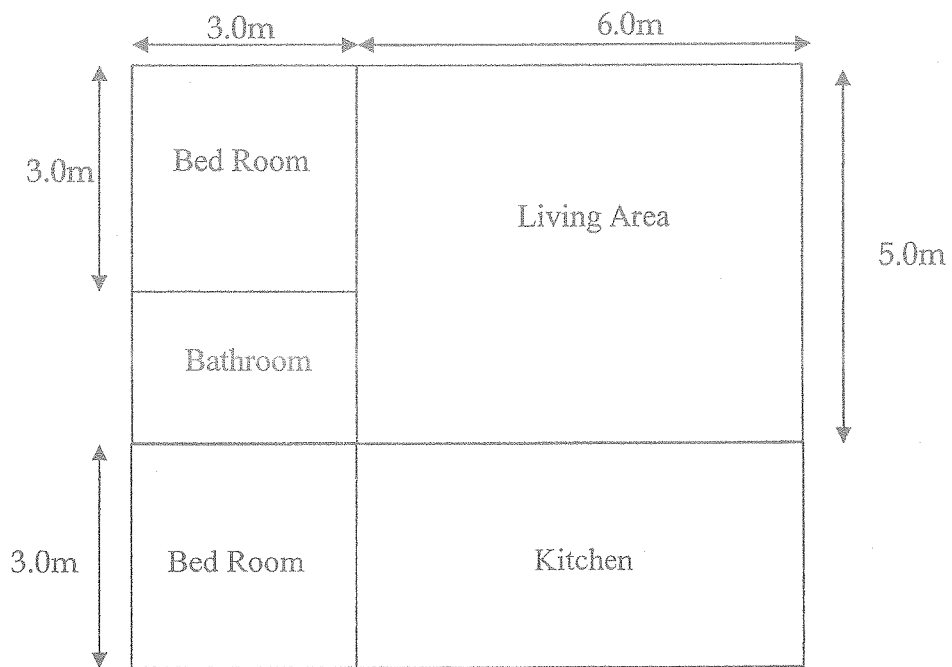

Figure Q4: Dimensions of the House
- Q4. Figure Q4 shows floor plan of a house and you are asked to design a lighting system for the house by using Lumen method. Lighting requirement is given in Table Q4 (b) in Data Sheet 4. For the lighting design, 20W Compact Fluorescent lights (CFL) are to be used in a ceiling recessed light fixture with one lamp per fixture. The luminous flux produced by lamp is 1250 initial lumens and SHRmax is 1:1. You may consider ceiling/wall/surface reflections for living area, kitchen and bedrooms as 50%/50%/30% and 50%30%10 for the bathroom. Consider the mounting height as 2.5 m. You may use Table Q4(a) and Table Q4 (c) in Data Sheet 4 as reference.